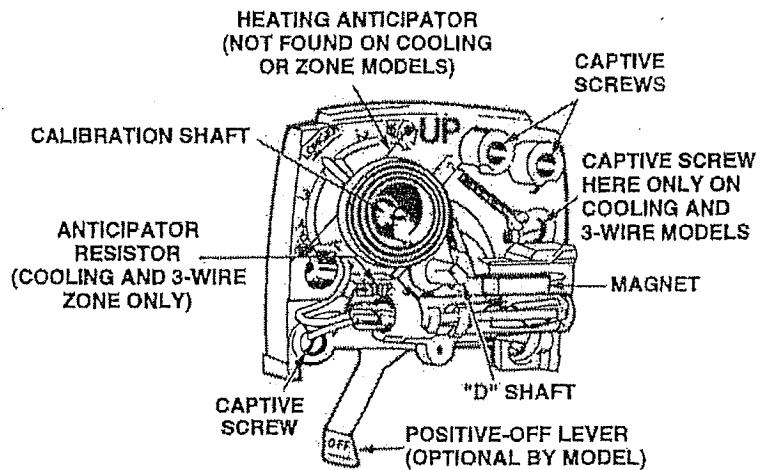

FIGURE 3 - BODY
- Remove subbase from the thermostat body by loosening captive screws. (See figure 3.)
- Mount thermostat body on subbase using three captive screws (figure 3.) Captive screw in lower left hand corner of body is self-threading into subbase. Use care not to overtighten.
- With a small crescent wrench, hold dial shaft (figure 3). Being careful that the shaft does not rotate from position it had when cover was removed.
- Keep hands and breath away from bimetal temperature sensing element (figure 3) Turn calibration shaft in center of bimetal coil
For average conditions, set the adjustable anticipator (upper left of thermostat body, figure 3) to match the current rating of the primary heating control. Move anticipator approximately 1/2 division in direction indicated by arrows on the thermostat for longer "ON" cycles, or move lever in opposite direction for shorter "ON" cycles. Allow at least 24 hours to determine if setting provides satisfactory operation before making any further adjustments.